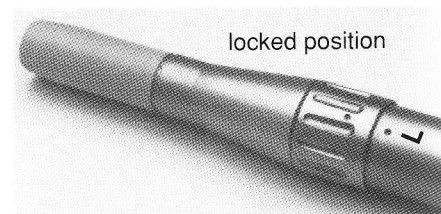

Figure 19
1. Twist lock collar to left until its orientation mark lines up with the "U" (unlock) orientation mark. See Figure 19.